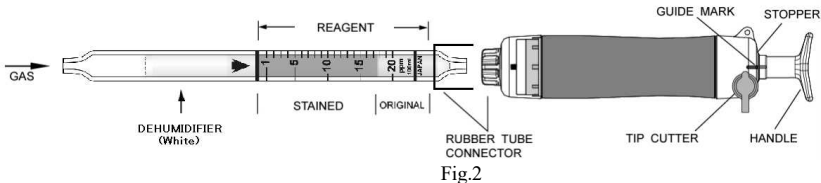

Fig.2
- ② Insert the detector tube into the aspirating pump securely as shown in Fig.2. (Arrow mark shall point to the pump.)
- ③ Align the guide marks on the shaft and stopper of the aspirating pump.
- ④ Pull the pump handle at a full stroke until it locks and wait for 1 minute or until the completion is confirmed with the flow indicator of the pump. (See descriptions about the flow indicator in the instruction manual of the pump.)
- ⑤ On completion of sampling, read the scale at the maximum point of the stained layer.
- ⑥ When the concentrations are below the scale range, 2 pump strokes can be used to determine these lower concentrations.
- ⑦ When the concentrations are over the scale range, a 1/2 pump stroke can be used to determine these higher concentrations.